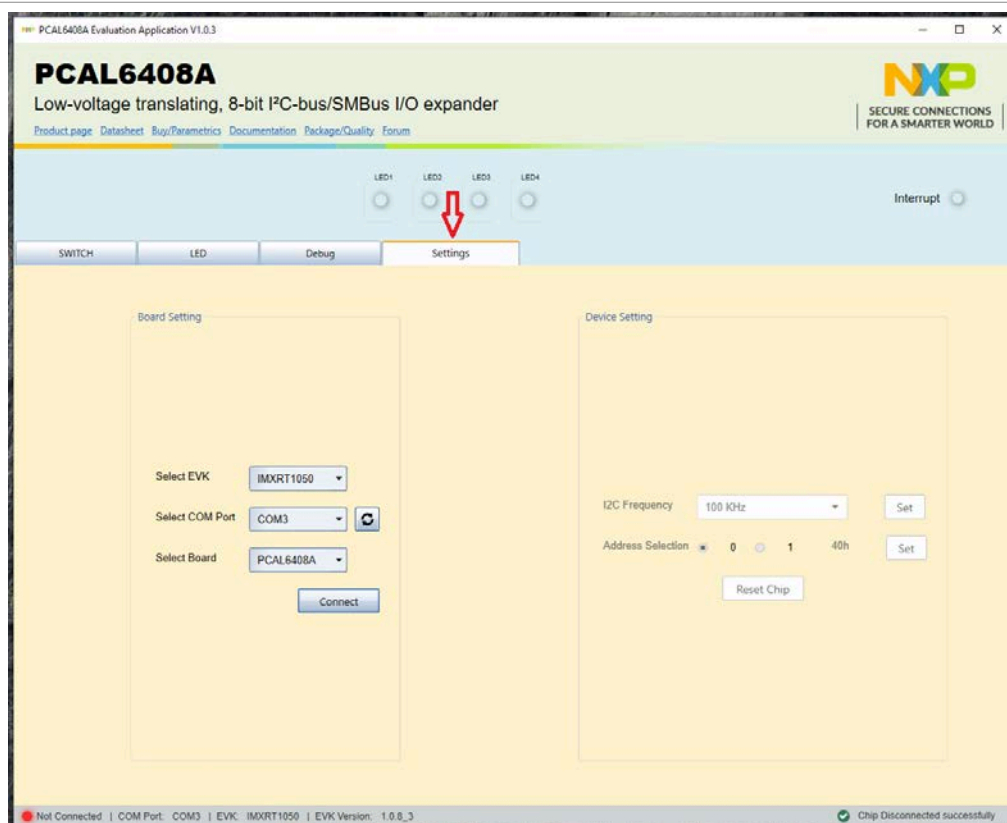

Figure 10. Graphical interface at start-up (“settings” tab activated by default)
Once installation is complete, assure that one of the mentioned three EVK with attached PCAL6408A-ARD daughter board is connected to PC and powered-on. Open NXP\_(PCAL65x4,PCAL64xxA) GUI application. An interface will appear as is shown in Figure 10:
- **Select Board:** allows the user to select the correct daughter board (the application can support four different boards). In Figure 10, the selected board is PCAL6408A. Selecting a wrong daughter board causes the connection to fail and a pop-up window with the message: *“Unable to Connect with Daughter Card”* appears on the screen.
| Fig. 3. | PCAL6408A-ARD Jumper locations .....   | 10 | Fig. 10. | Graphical interface at start-up ("settings" tab activated by default) .....  | 19 |